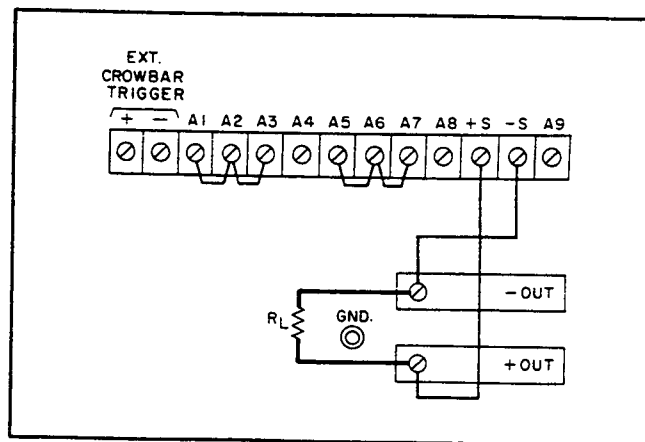

Figure 3-2. Normal Strapping Pattern
a. Turn CURRENT controls ⑦ and OVERVOLTAGE ADJUST potentiometer ⑤ fully clockwise and check that rear panel straps are connected as shown in Figure 3-2, but do not connect load R_L .
- c. Set LINE switch or circuit breaker ① ON and observe that pilot lamp ② lights.
- d. Adjust COARSE and FINE VOLTAGE controls ③ for desired indication on voltmeter ④.
- e. Ensure that overvoltage crowbar circuit is operational by slowly turning OVERVOLTAGE ADJUST control ⑤ counterclockwise with a screwdriver until OVERVOLTAGE lamp ⑥ lights and voltmeter indication drops to zero volts.
g. To check the constant current circuit, first turn off the supply, connect a short across the output bus bars (see Figure 3-2), and turn it back on.
h. Adjust **COARSE** and **FINE CURRENT** controls ⑦ until ammeter ⑧ indicates desired output current or current limit. (The **VOLTAGE** controls must be set for a greater-than-zero output to obtain the output current programmed.)
3-7 This power supply was shipped with the proper rear panel strapping connections made for constant-voltage/constant-current operation with local sensing and local programming. This strapping pattern is illustrated in Figure 3-2. By means of the front panel voltage and current controls, the operator selects either a constant-voltage or a constant-current output. Whether the supply functions in the constant-voltage or the constant-current mode depends on the settings of the voltage and current controls and on the resistance of the output load. For values of load resistance greater than a critical crossover value equal to the voltage setting divided by the current setting, the supply operates in the constant-voltage mode. With a load resistance smaller than this critical value, it operates in the constant-current mode. The transition occurs automatically; no switches need to be operated or connections changed.
3-28 Because of the unavoidable voltage drop developed in the load leads, the normal strapping pattern shown in Figure 3-2 will not provide the best possible voltage regulation at the load. If, for example, one were to use 4-gauge wire to connect a load that is located only 5 feet from a
The +S jumper is the one that links the +S terminal to the +OUT terminal when the supply's terminals are strapped for normal operation as shown in Figure 3-2. The -S jumper is the one that links the -S terminal to the -OUT terminal.